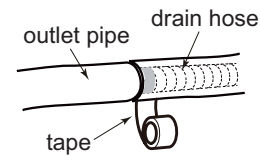

Fig.9
2. Bind the joint with tape. (As show in Fig.9)